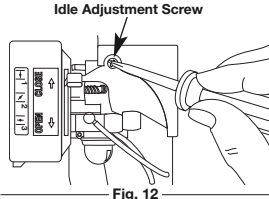

Fig. 12
The idle speed of the engine is adjustable. An idle adjustment screw is between the air filter cover and the engine starter housing (Fig. 12).
2. Release the throttle trigger and let the engine idle. If the engine stops, insert a small phillips in between the Air Filter Cover and the Engine Cover (Fig. 12). Turn the idle speed screw in, clockwise, 1/8 of a turn at a time (as needed) until the engine idles smoothly.